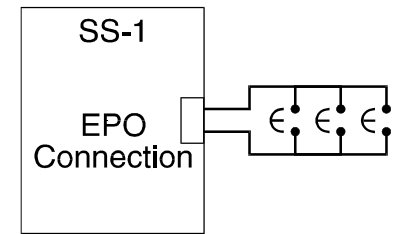

Figure 7
2. If you use more than one EPO switch, wire them in parallel. See Figure 7.